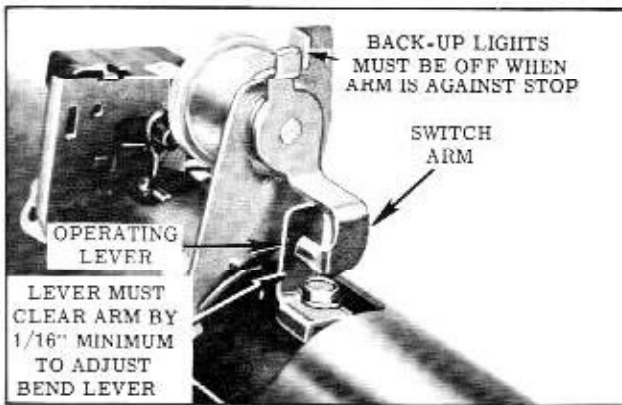

Fig. 13-96 Back Up Lamp Switch (2nd)
3. Move shift lever to second gear. Operating lever should clear switch lever by a minimum of 1/16". (Fig. 13-96)